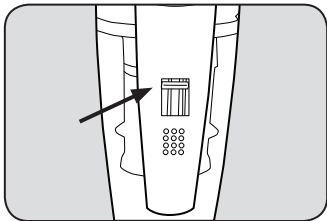

Fig. 9
5. Adjust the power of the motor by sliding the suction control valve up or down. (Fig. 9)